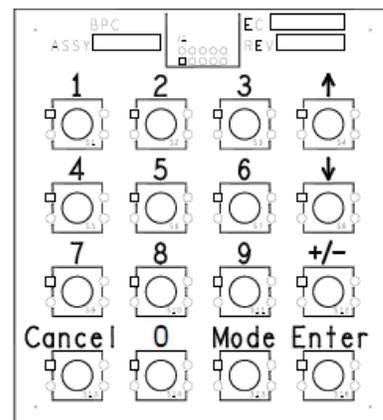

Figure 2.3 – Manager’s Keypad
1. Using the keypad seen in *Figure 2.3*. Press the **+/-** button five times to cycle through the dispenser types.